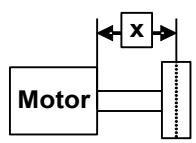

Figure 1
X = distance from motor to the center of the pulley (figure 1)
Distance (X) _____ X = distance from motor to the center of gravity of the mounted object (figure 1)
Distance (X) _____ X = distance from motor to the center of the mounted sprocket (figure 1)
X = distance from motor to the center of the mounted gear (figure 1)